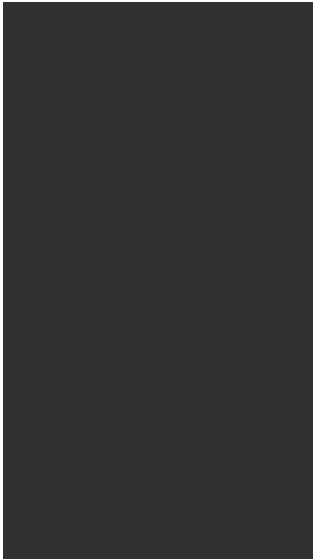
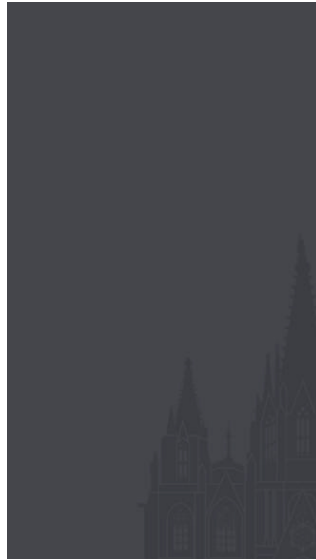
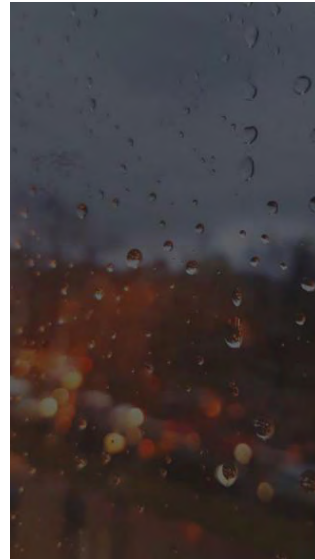

Fig.3.1 Default
Fig.3.2 Church
Fig.3.3 Water Droplets
(1) Configuring background through ETS configuration, there are 3 options: Default, Church and Water droplets, as shown in Fig.3.1, Fig.3.2 and Fig.3.3.
(2) Inserting new background through Micro SD card, specific steps are as follows: